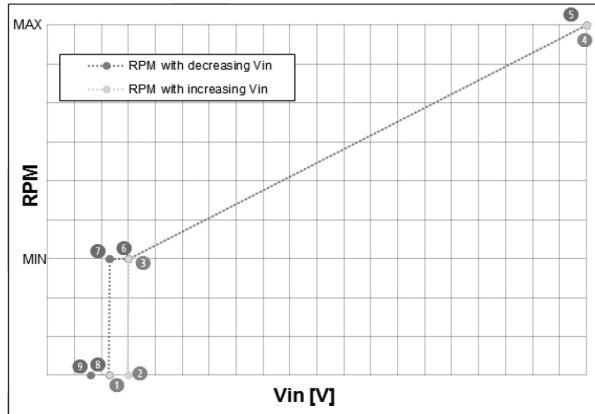

Figure 1
2.5.2 External analog input 0-10V [(7) (8)]
An external analog signal 0-10V, applied to terminals (7) and (8), controls the circulator speed ranging from 0 to 100%, following a linear function as depicted in Figure 1.
The table below is a description of the points shown in Figure 1.